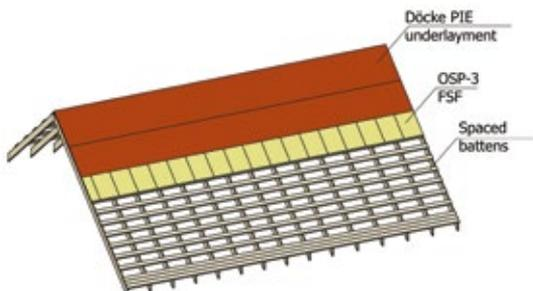

Fig. 8. Sequential top-down installation of Döcke PIE underlayment.
1.5.4 If the Döcke PIE self-adhesive underlayment is installed at temperatures below +15°C, the membrane should be additionally fixed mechanically using Type 1 fasteners (Table 1) (Fig. 8 c).
To minimize walking on underlayment, especially on steep slopes, it is allowed to carry out sequential installation from top to bottom: first, the top row of OSB-3 or FSF plywood is installed, then the top strip of the underlayment is installed over the installed row of boards (Fig. 8). This installation method is only suitable for simple roofs without roof valleys.